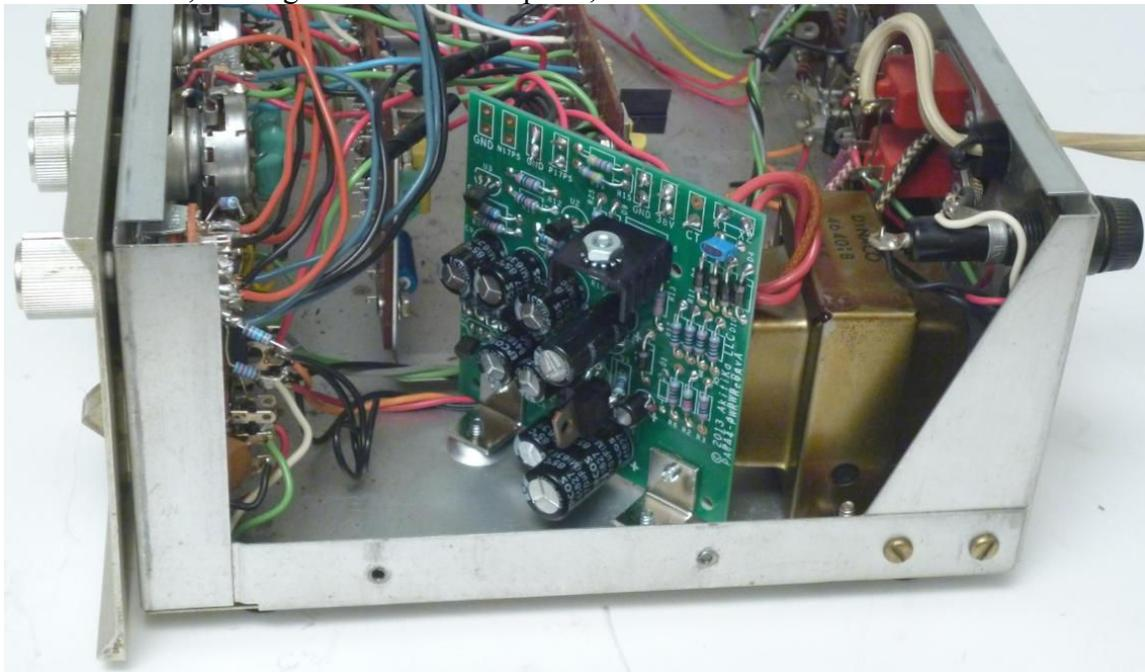

Figure 6-New Power Supply Installed in PAT-4 (this PAT-4 has tone control defeat switch)
2. Use the old mounting holes from C29 to fasten the brackets to the chassis. **Figure 1**Figure 6, on the next page, may also clarify this bit of the assembly.